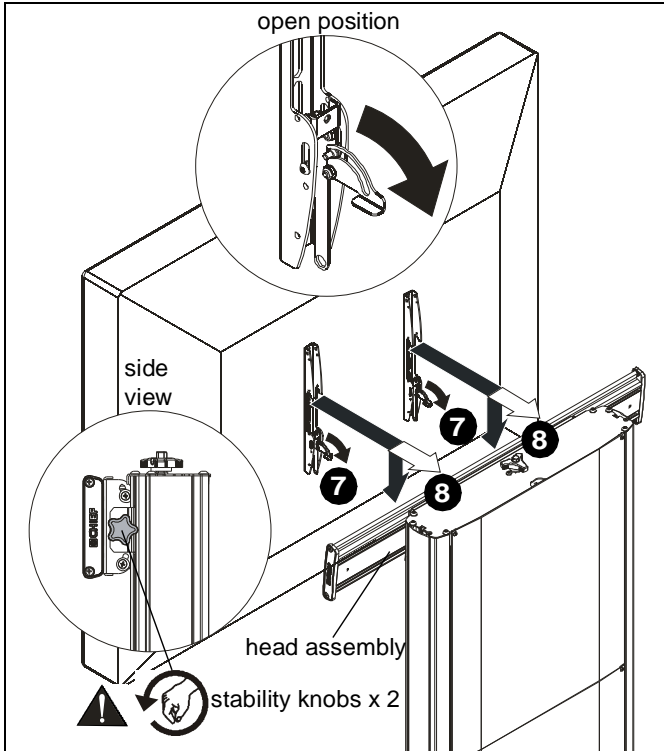

Figure 4
7. Position latches on interface uprights so that they are in the "open" position. (See Figure 4)
8. Hang interface uprights (B) on head assembly. (See Figure 4)